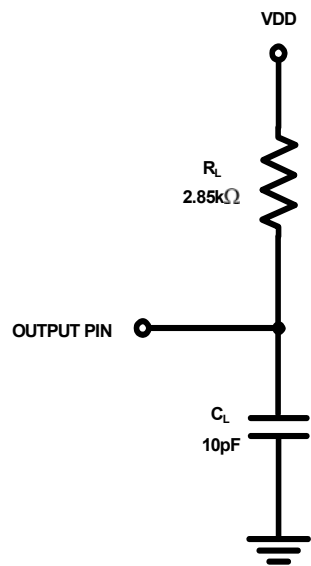

FIGURE 4. EQUIVALENT LOAD CIRCUIT
14. During characterization,  $t_{DISABLE}$  is measured from the release point with a 10pF load (see Figure 4).